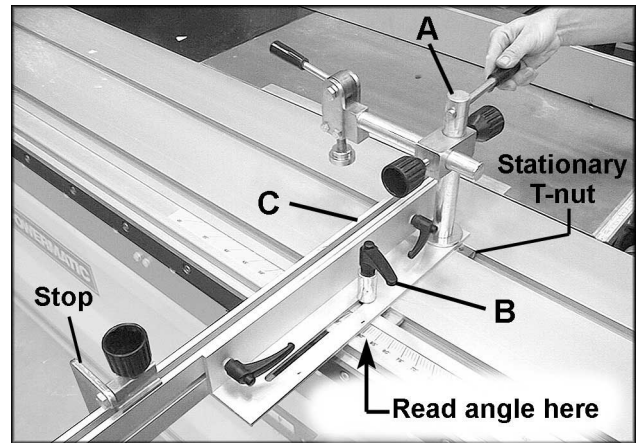

FIGURE 30
1. To set the required angle, loosen the rod (A-Fig. 30) with the provided pin as shown. Loosen the large lever (B-Fig. 30).
2. To slide the fence (C-Fig. 30) toward or away from the saw blade, unlock the two smaller levers.
3. Reading the angle is done at the edge of the aluminum bracket. An adjustable stop can be mounted to the mitre fence as shown in Figure 30, for making multiple cuts of the same length.